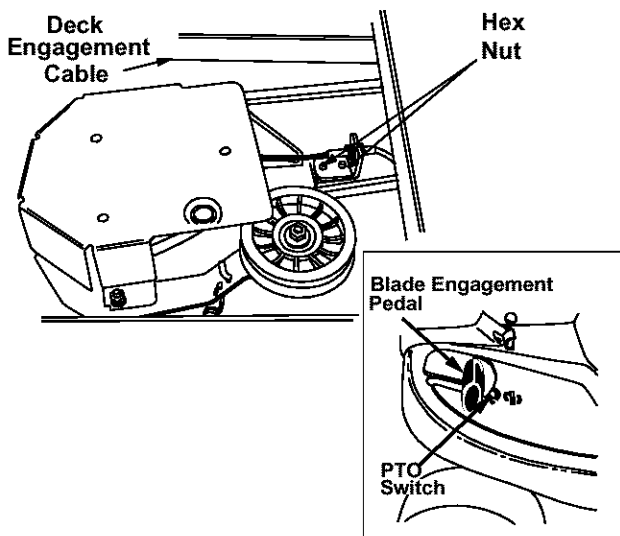

Figure 12
The blade engagement pedal should be adjusted so that if you depress it about 3/4" from the front of the slot, it should start engaging the deck belt. The PTO (power take off) switch is located in the blade brake slot on the left side of the upper frame. See Figure 12. The brake engagement pedal needs to make contact with the PTO switch for the engine to start.
Adjustment to the blade brake will have to be made at the cable end. See Figure 12.
- If the belt is slipping when you depress the blade engagement pedal about 3/4", loosen the two hex nuts on the cable. See Figure 12.
- If the belt is engaging sooner than when the blade engagement pedal is 3/4" from the PTO switch, tighten both hex nuts on the cable. See Figure 12.